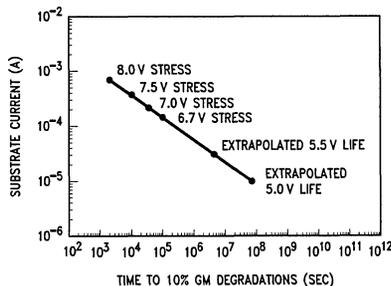

FIGURE 1. Accelerated AC and DC Stressing of Drain Voltage to Determine 10% Gm Degradation under Normal Operating Conditions
5.0V and 5.5V to give the life under normal operating conditions as seen in *Figure 1* below.